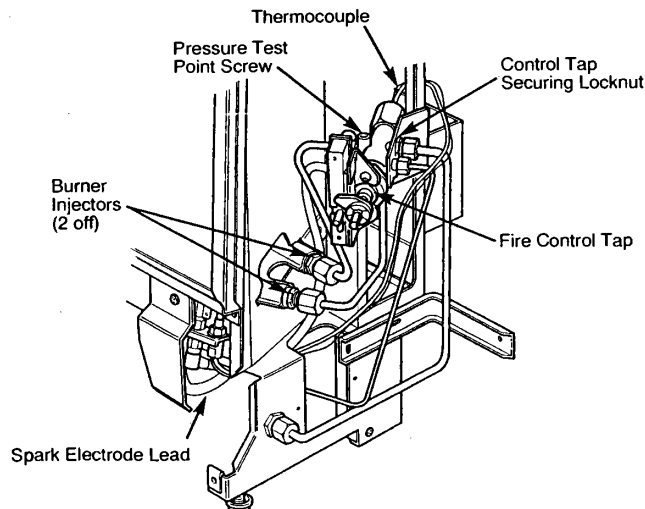

Fig. 10 The Controls
8. Remove the burner as follows: (Figs.10 and 11).
- (b) To exchange the component: (Fig. 10). Pull off the plastic cap and disconnect the spark electrode lead from the piezo unit. Disconnect the four pipes at the gas tap. Disconnect the thermocouple from the gas tap. Remove the 3 screws securing the gas tap bracket to the inner case and remove the complete assembly. Remove the locknut holding the gas tap to the bracket or innercase and remove the gas tap.
5. BURNER (Figs.10& 11)
7. ELECTRO-MAGNET UNIT (Figs 10 & 12)